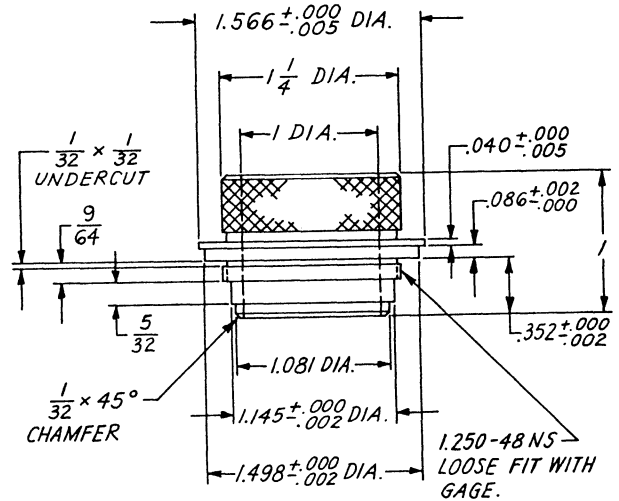

Figure 4. LENS ADAPTER
- b. Lens adapter (Figure 4) to retain front housing during disassembly and while testing shutter.